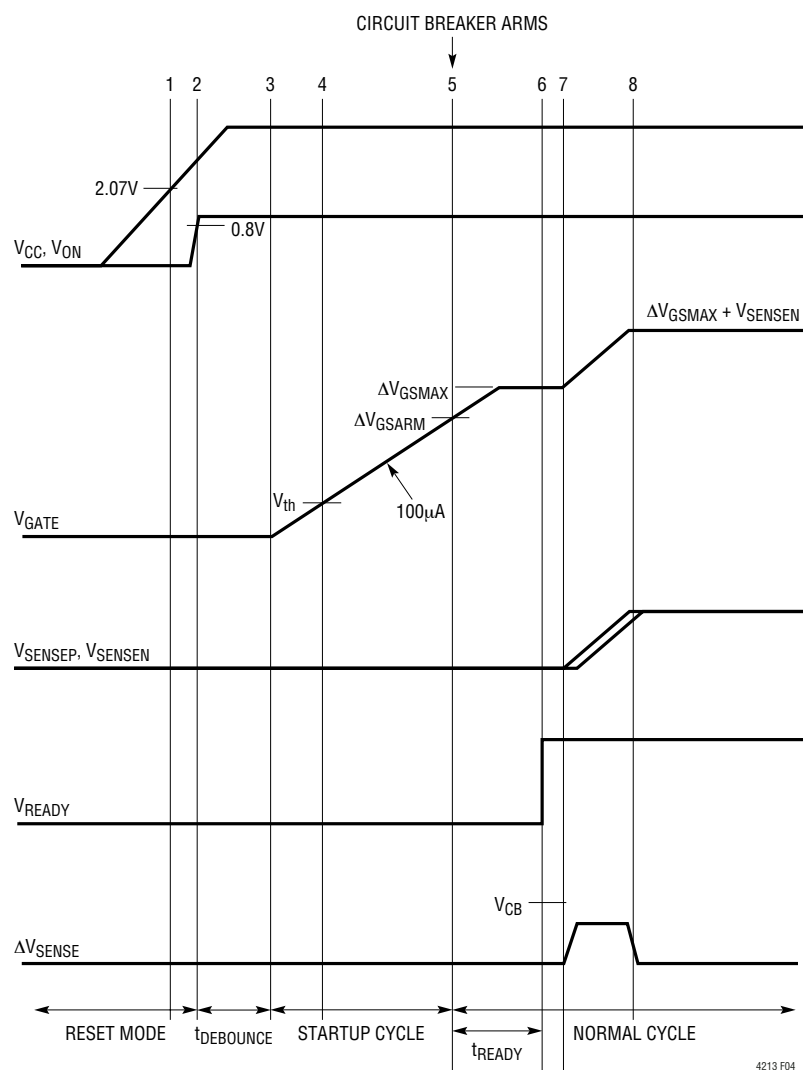

Figure 4. Load Supply Power-Up After Circuit Breaker Armed
Figure 4 shows a normal power-up sequence for the circuit in Figure 1 where the V_{IN} load supply power-up after circuit breaker is armed. V_{CC} is first powered up by an auxiliary bias supply. V_{CC} rises above 2.07V at time point 1. V_{ON} exceeds 0.8V at time point 2. After a 60 μs debounce delay, the GATE pin starts ramping up at time point 3. The external MOSFET starts conducting at time point 4. At time point 5, V_{GATE} exceed $\Delta V_{\text{GS(ARM)}}$ and the circuit breaker is armed. After 50 μs (t_{READY} delay), READY pulls high by an external resistor at time point 6. READY signals the V_{IN} load supply module to start its ramp. The load supply begins soft-start ramp at time point 7. The load supply ramp rate must be slow to prevent circuit breaker tripping as in equation (8).